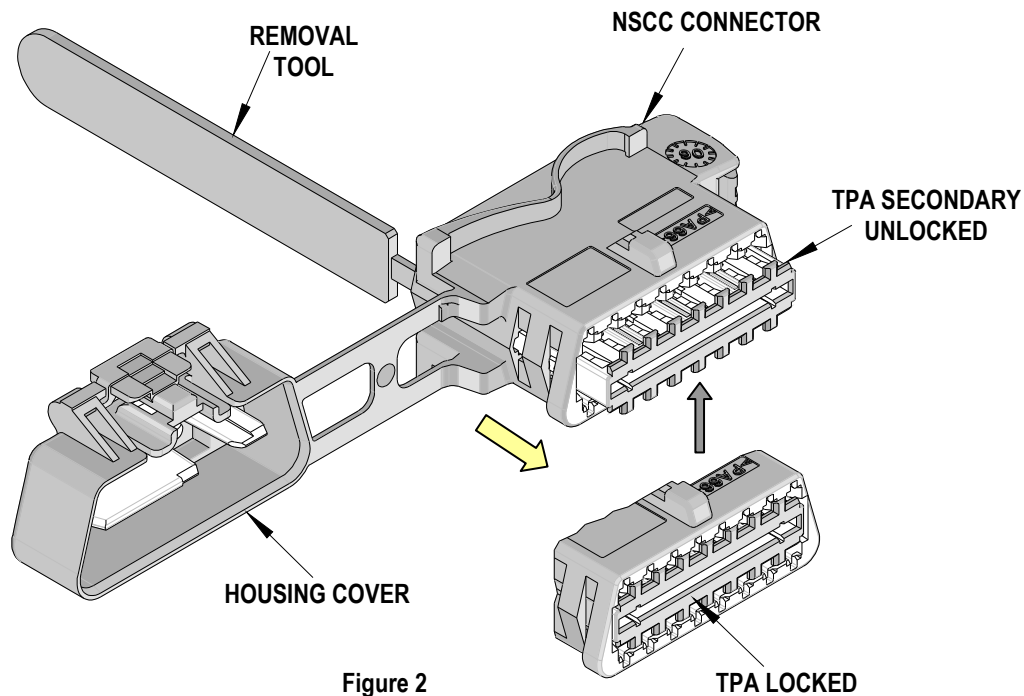

Figure 2
4. The TPA secondary is now in unlock position. See Figure 2.